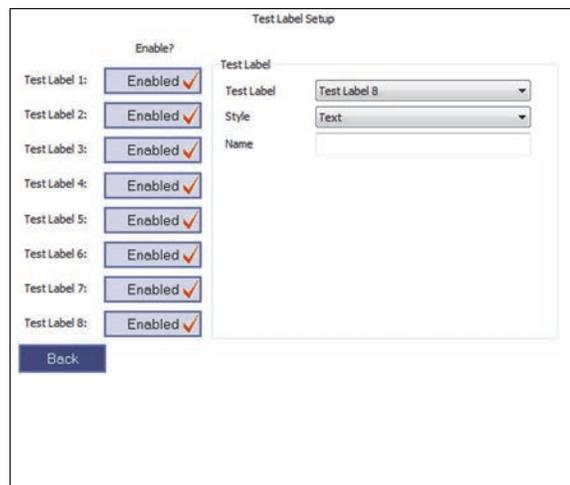

Figure 1-8 The Test Label Setup pane
3. In the **Test Label** area, click the **Test Label** list, and then choose a label number (see Figure 1-8 on page 12).